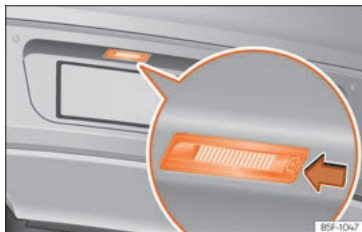

Fig. 121 In the rear bumper: number plate light.
1. Press the number plate light in the direction of the arrow »» Fig. 121.